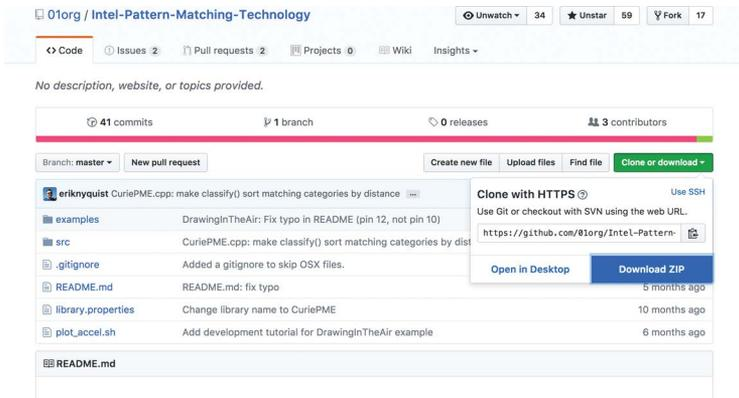

FIGURE 5.1: Curie PME GitHub repository
1. Download the zip file from its GitHub repository (Figure 5.1): <https://github.com/OIorg/Intel-Pattern-Matching-Technology>.